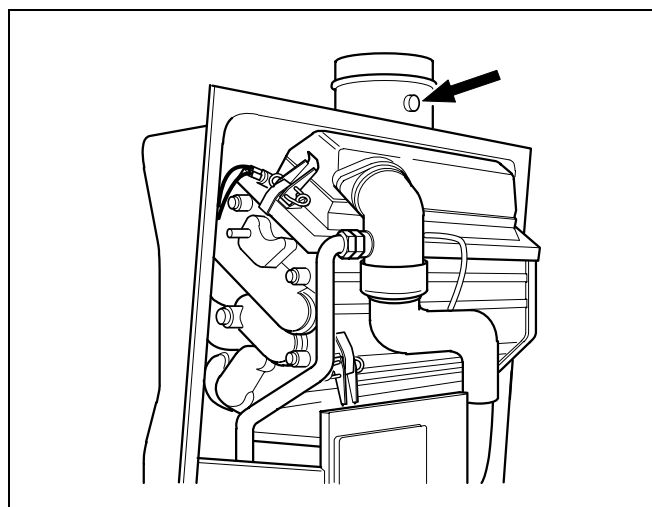

fig. 38 Flue gas measuring point
- Measure and record the CO2 content on the flue gas measuring point (fig. 38).
Measuring point see fig. 38 on page 28.